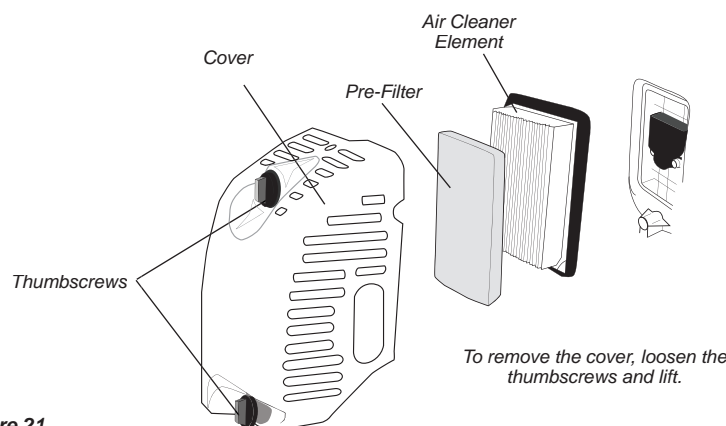

Figure 21
- Remove the air cleaner cover by loosening the thumbscrews and lifting. See Figure 21.